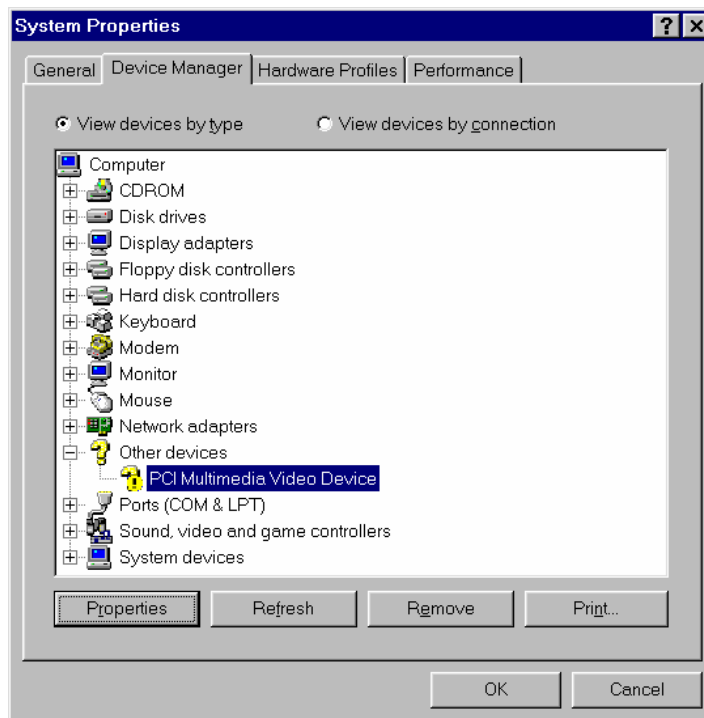

Figure 3. Locating an unidentified Telegeny device
- Click on the *Device Manager* tab to see a dialog similar to the one shown in Figure 3.
- Locate and double-click on the *Other devices* branch, shown with the yellow question mark (?). You should see a device labeled *PCI Multimedia Video Device* among the other devices in the group (see Figure 3). This is a generic name assigned to MG444 card by the system.